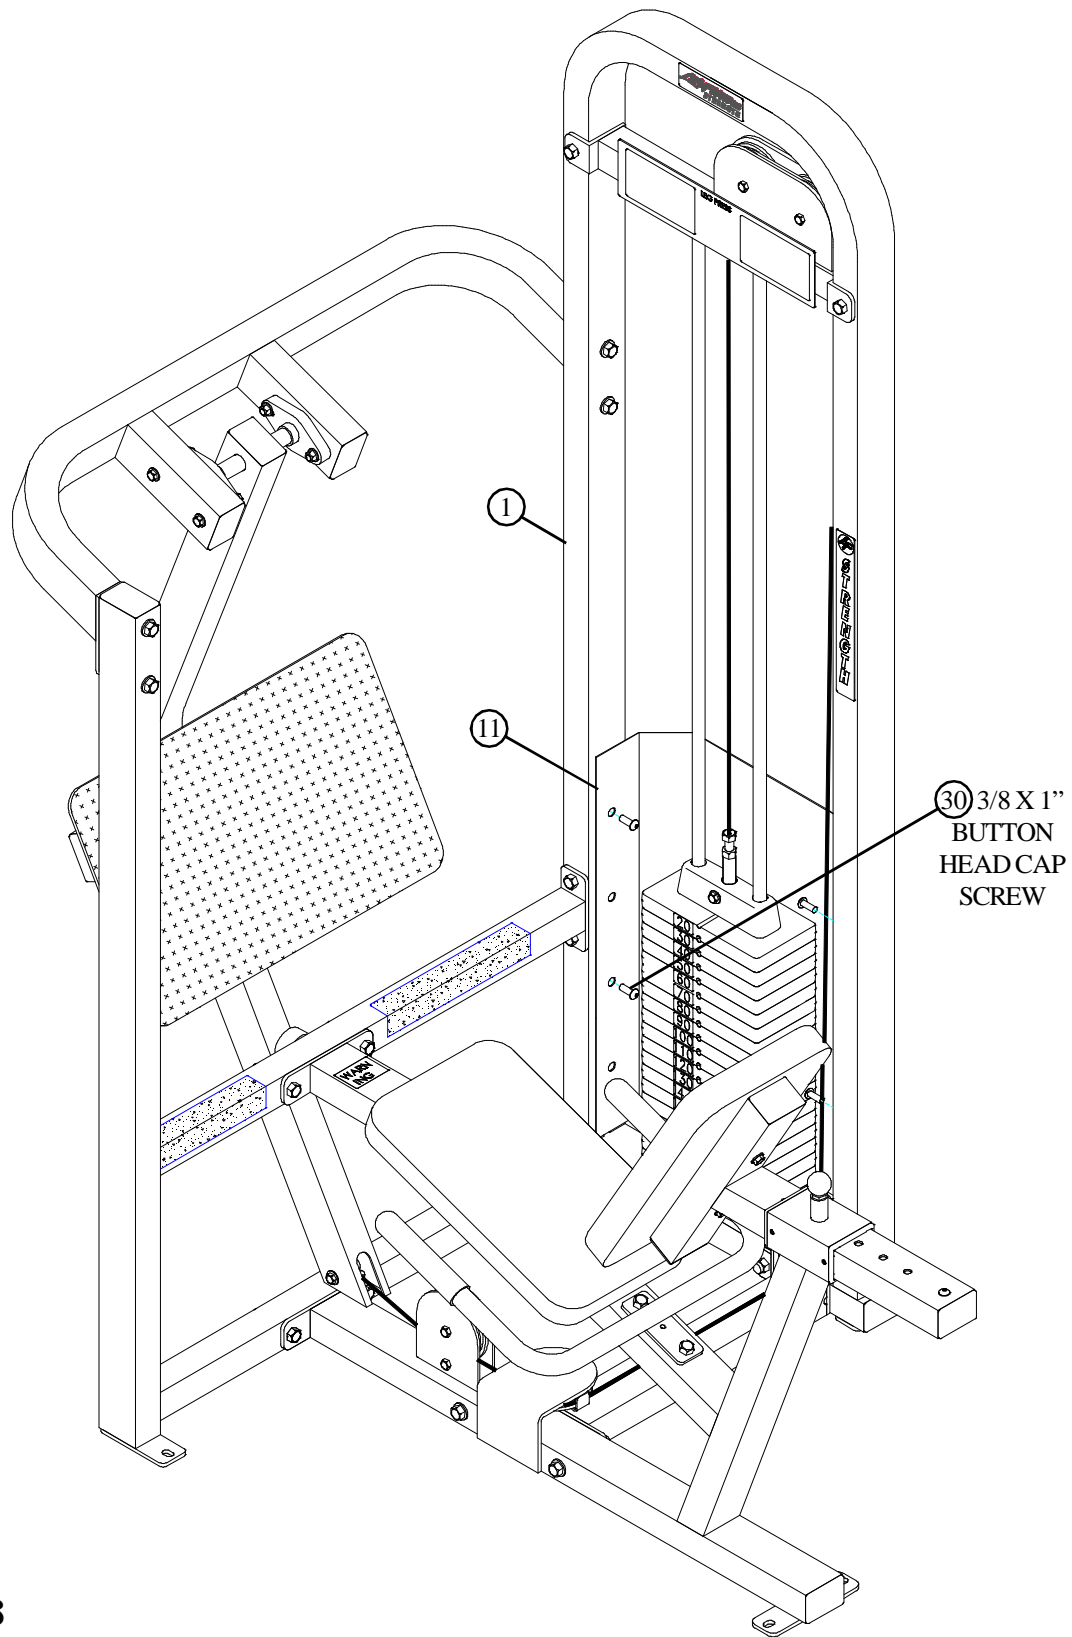

FIGURE 18
- **SECURELY** assemble the SHROUD (11) to the TOWER (1) using four 3/8 X 1" BUTTON HEAD CAP SCREWS (30) as shown in FIGURE 18.